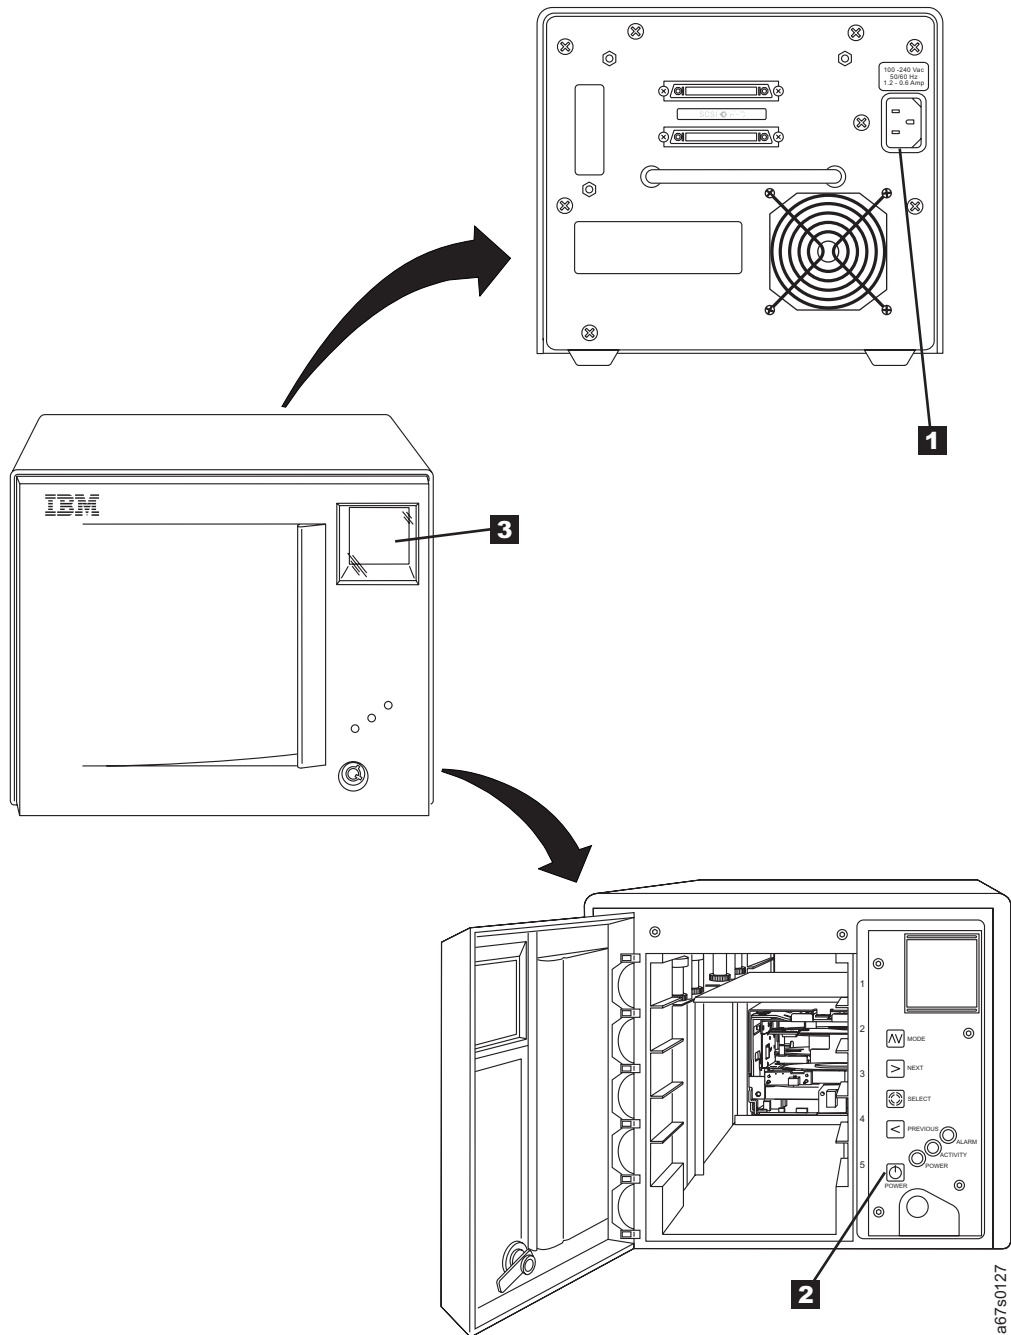

Figure 2. Connecting power to the 3581 Tape Autoloader
- ___ 2. Plug the power cord into the receptacle at the rear of the 3581 Tape Autoloader (see **1** in Figure 2 on page 10), then plug the other end into a grounded electrical outlet.
- ___ 3. Open the front door and power-on the 3581 Tape Autoloader by pressing and releasing the POWER button (**2** in Figure 2 on page 10). When the autoloader completes the Power-On Self Tests (POSTs) for the drive and the library, a message appears in the message display **3** . The message varies, depending on the autoloader’s mode of operation: